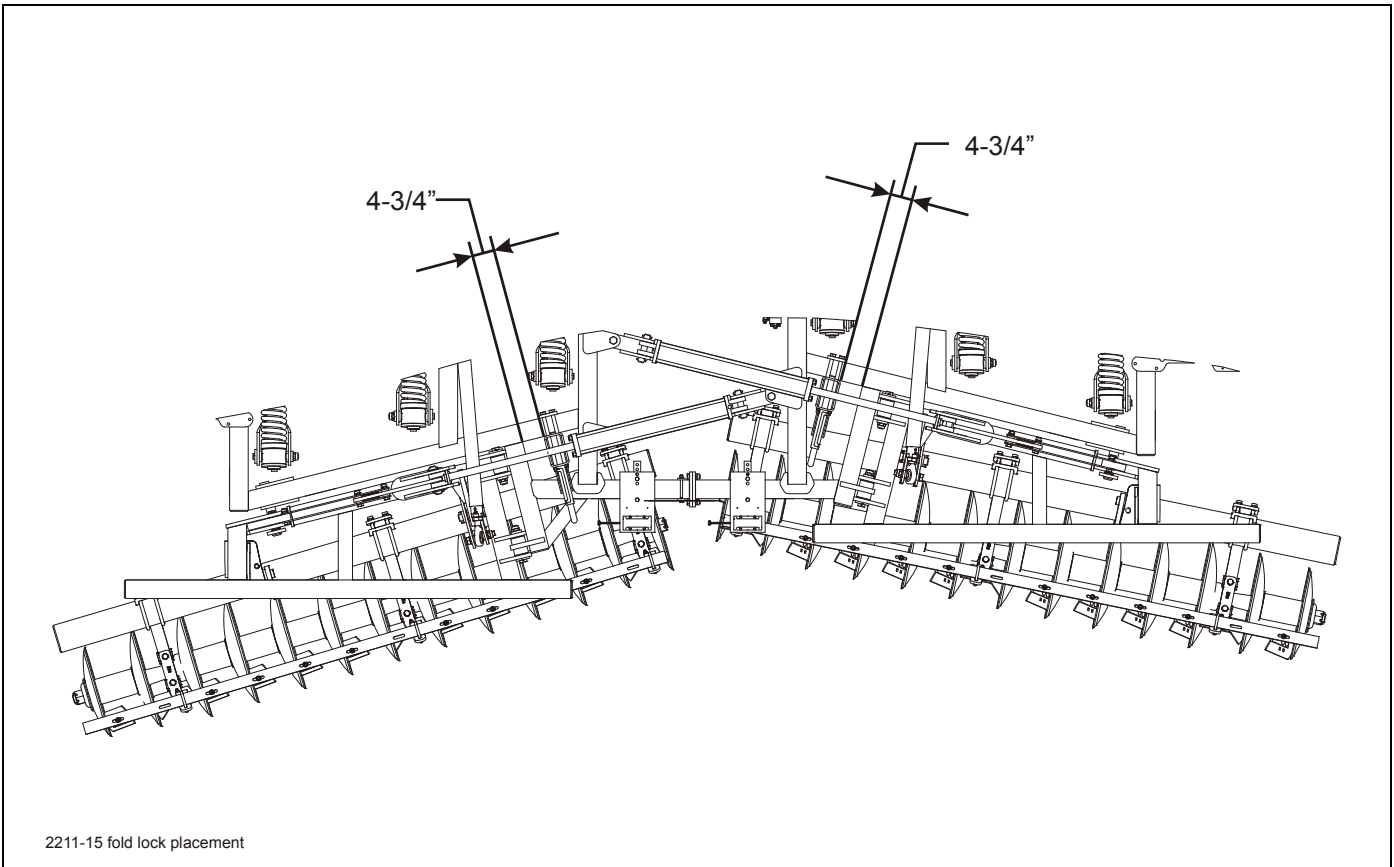

Figure 3-3: Fold Lock Placement
1. Place fold lock assembly on the front side of the 7 x 4 rear frame tube and mount plate on the back side of the rear frame tube (See Figure 3-3.)